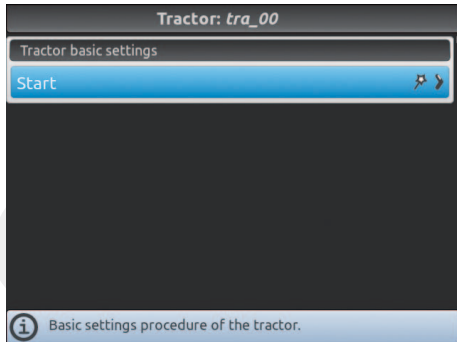

Fig. 48
- Press **ESC** and return to the **Settings** menu. Now select **Tractor** to start guided setup procedure as shown in Fig. 48.